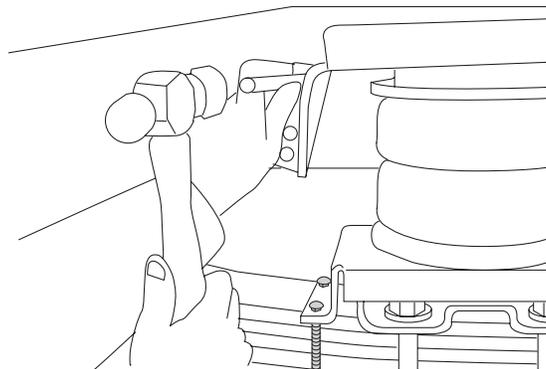

fig. 6
5. Clamp the upper bracket to the frame rail with a C-clamp or welding clamp and center punch one mounting hole (Figure 6).